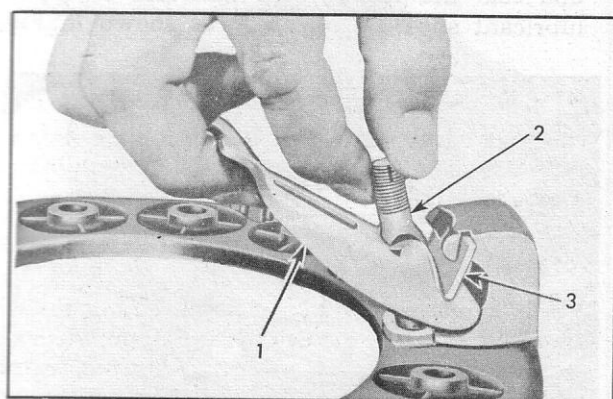

Fig. 10—Removing Levers (Step 1)
4. To remove levers grasp lever and eyebolt between thumb and fingers as shown in Figure 10, so that inner end of lever and upper end of eyebolt are close together, keeping eyebolt pin seated in its socket in lever.
5. Slide the strut upward in the slots of the lug, lifting it over the ridge on the short end of the lever and drop it into the groove in the lever (fig. 10).